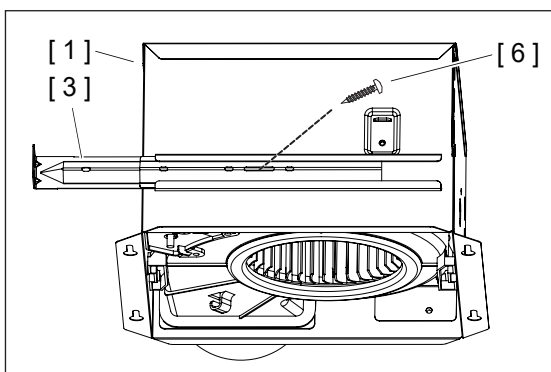

Fig 7
5. Install one Short Screw [ 6 ] to the hole of the Long Bracket [ 3 ] and secure. The hole should be close the center of Fan Body [ 1 ]. (Fig 7)